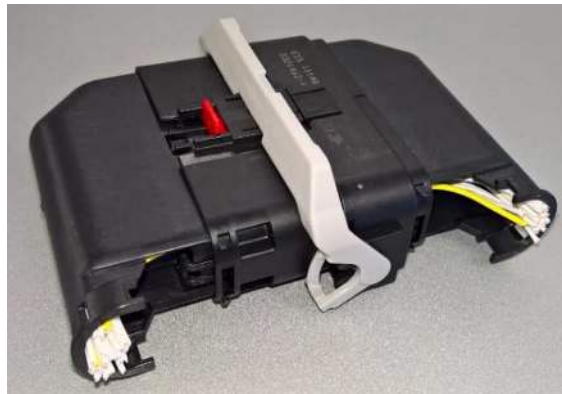

Figure 14
8. The connector system is now fully mated. See Figure 14.